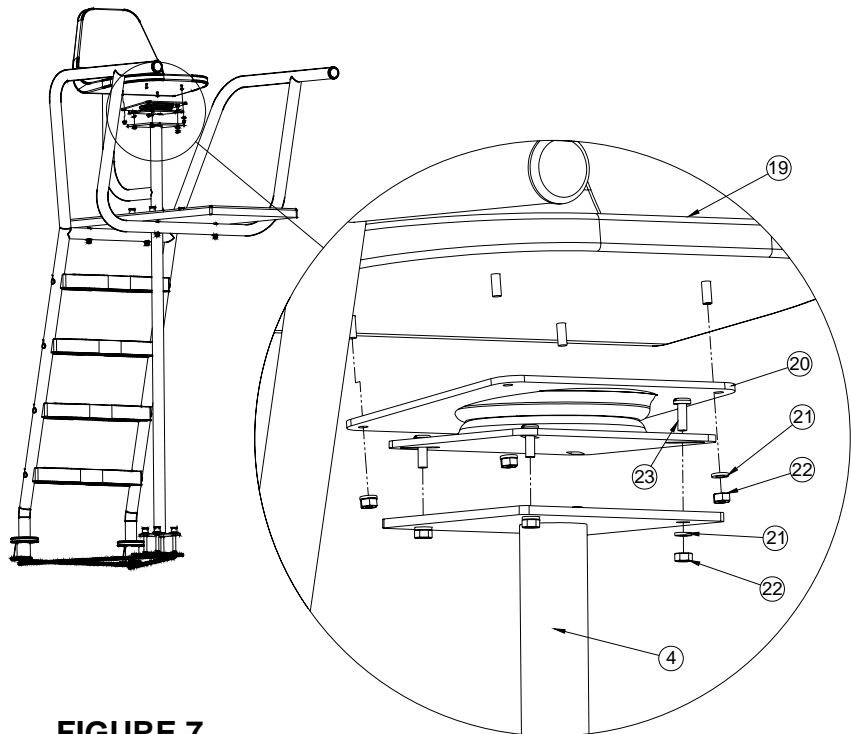

FIGURE 7
6. Place **Swivel (item 20)** onto Swivel Stand. Place four (4) **1/4" screws (item 23)** into slots on the lower plate of the swivel. Secure the swivel onto the swivel stand using four (4) **1/4" lock washers (item 21)** and four (4) **1/4" hex nuts (item 22)**. Tighten the nuts while centering the swivel onto the swivel stand. Place **Lifeguard Seat (item 19)** into the swivel, orienting as shown in **FIGURE 7**. Secure the swivel onto the swivel stand using the remaining **1/4" split washers (item 21)** and **1/4" hex nuts (item 22)** as shown in **FIGURE 7**. Tighten hex nuts.